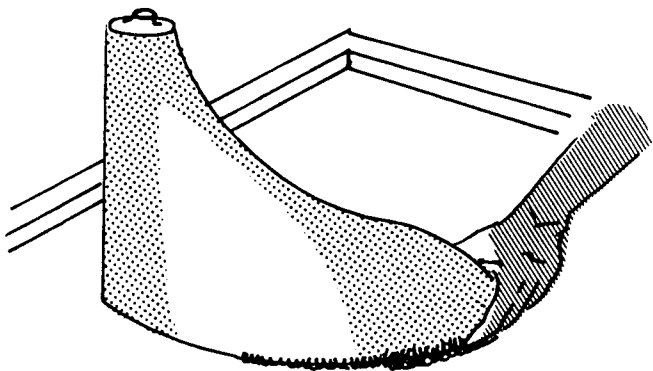

FIGURE 8. SEALING CRACKS WITH CLAY.
2. Place the bowl core on the wooden slab form and fill all cracks with clay. See Figure 8.